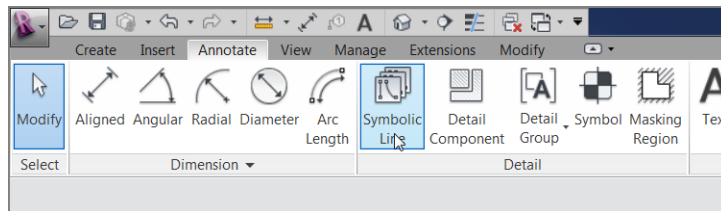

FIGURE 17.26: The Symbolic Line button
1. Go back to the door family in the Ref Plan view. On the Annotate tab, click the Symbolic Line button, as shown in Figure 17.26.